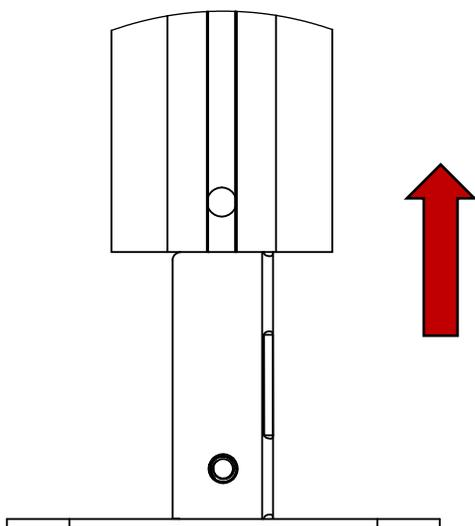
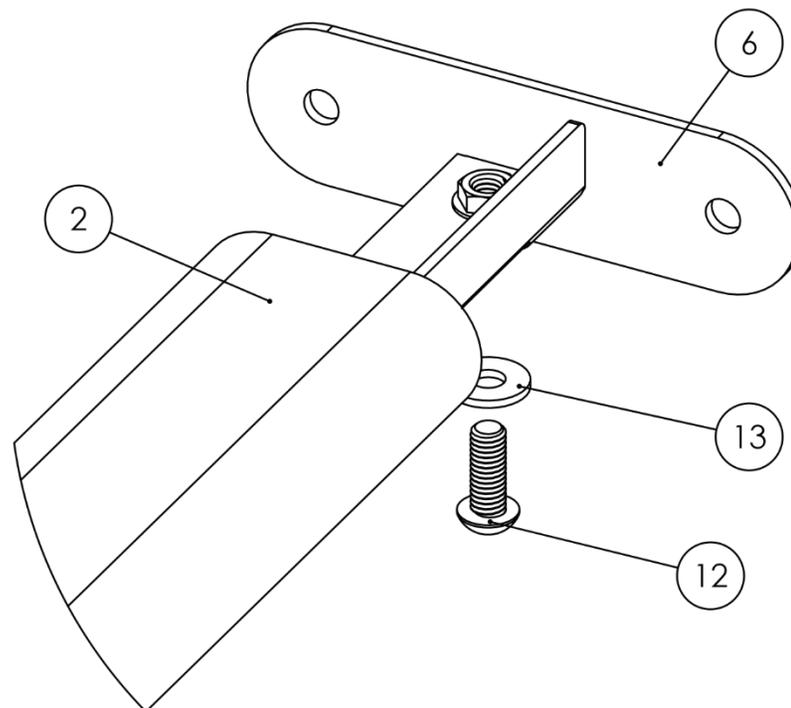

Figure 3
Figure 4
2. **Install the Side Rail Connectors to the Crossbars.** Examine the Side Rail Connectors (Item No. 6) and notice that of the 6 provided, 2 are shorter in size. These smaller ones will require installation within profile 1 – the front Crossbar (Item No. 2). As shown in Figure 3, slide a Side Rail Connector into the end of each Crossbar. Once inserted, match the Crossbar's pre-drilled hole with the Connector's threaded hole. As shown in Figure 4, secure each Side Rail Connector by threading a 1.25" Button Head Cap Screw (Item No. 9) and a Metal Washer (Item No. 13) into these holes.